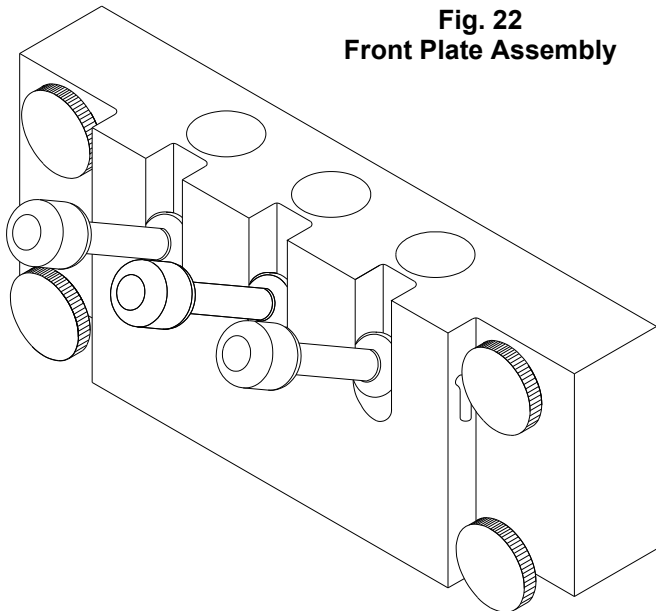

Fig. 22
- e. Install the front plate assembly with the four plastic knobs. Turn the knobs in a clockwise direction and be certain to tighten them evenly. **DO NOT** tighten one knob all the way down and then another. Doing so may result in front plate breakage. Only moderate force is required. **DO NOT** over tighten. Set all spigot plungers to the closed position as shown in Fig. 22.